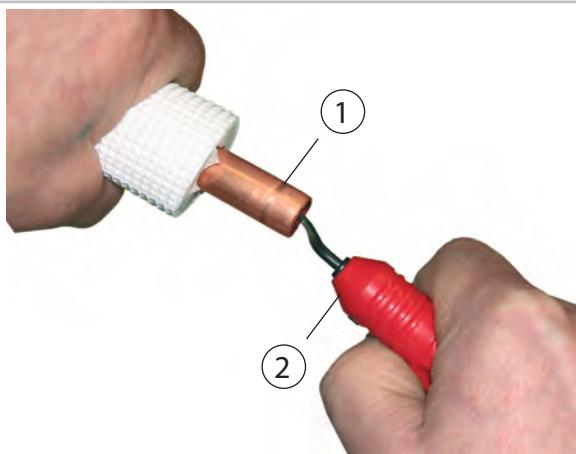
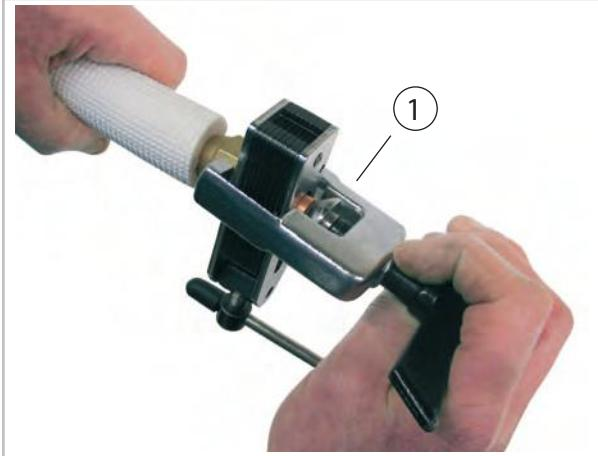

Fig. 37: Deburring the refrigerant piping
Fig. 38: Flanging the refrigerant piping
8. Prepare the laid refrigerant pipings as shown below (Fig. 37 and Fig. 38).